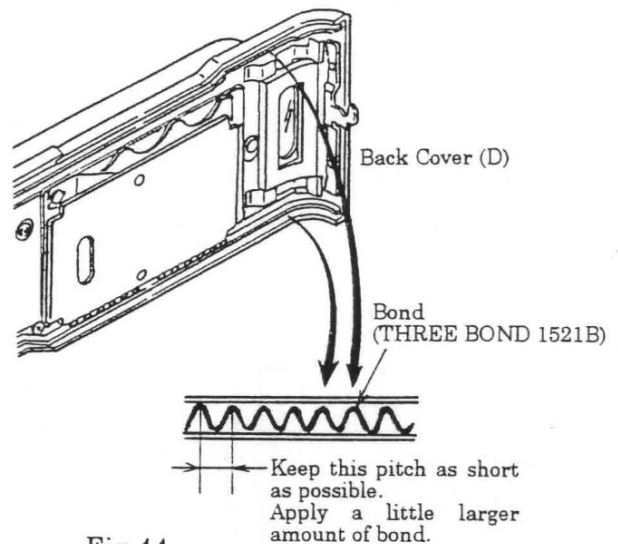

Fig.44
- c) Apply the bond (THREE BOND 1521B) into the groove in the Back Cover (D). Apply the bond evenly. (See Fig. 44)